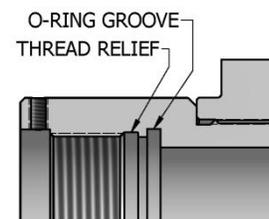

Fig. 2
**CAUTION4:** To ensure tool operates properly, install o-rings in o-ring grooves **NOT** thread reliefs (Fig. 2).
- H-1) Clamp flat top (1) in vise
- H-1.1) Install o-rings (31, 32) in o-ring grooves in flat top (1).
- H-1.2) Screw feed through tubes (3) and long string mandrel (2) into flat top (1).